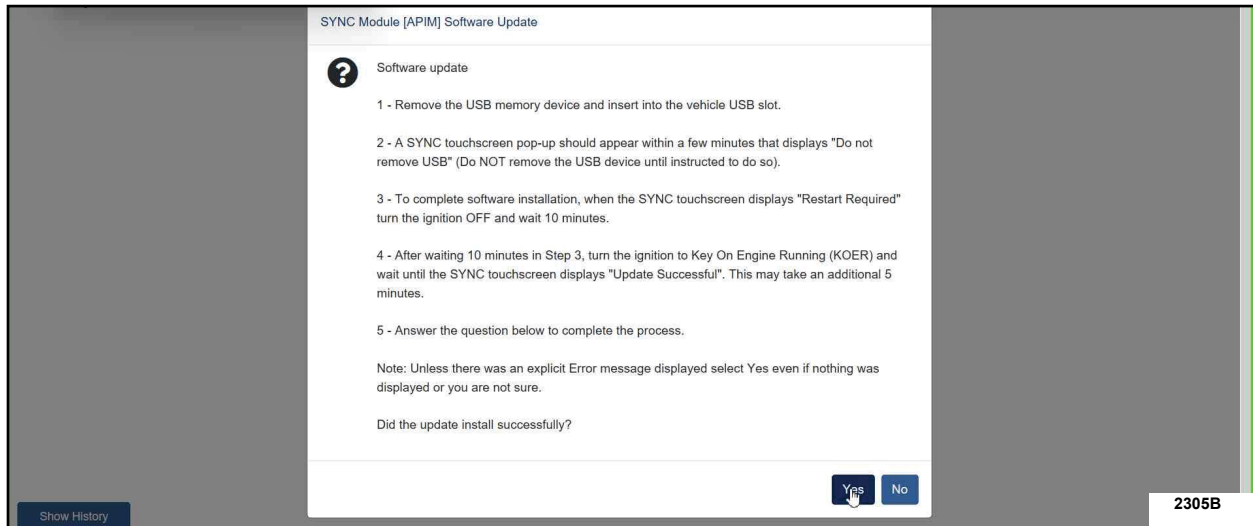

FIGURE 4
33. Continue to follow all on-screen instructions carefully until the following screen is reached. See Figure 4.
- b. Wait ten (10) minutes.
35. After 10 minutes continue with the remaining steps shown in Figure 4.